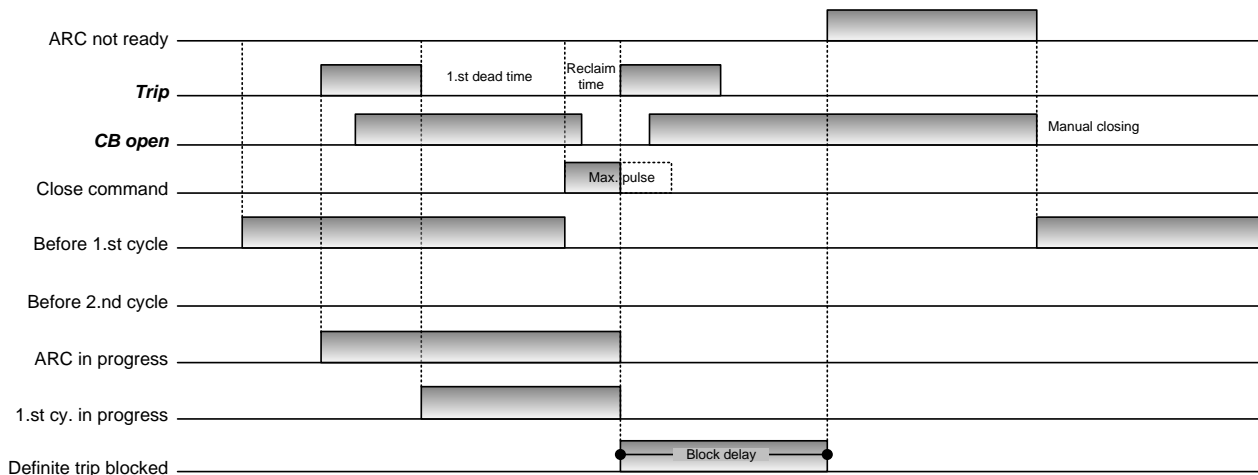

Figure 6.10: Unsuccessful automatic reclosing, a dynamic block
- Any **Trip** is present during the last **Reclaim time**, when all of unsuccessful closing cycles have expired (Figure 6.10).